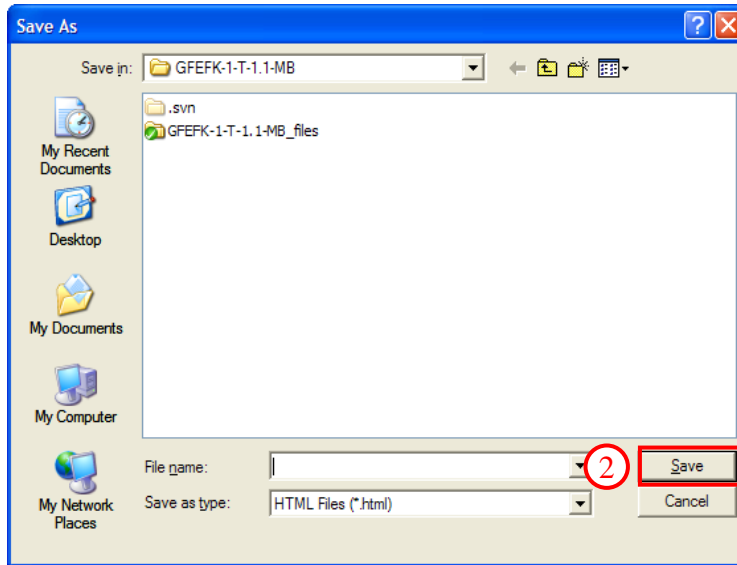

Figure 91. Archive Entire Database - Save As Dialog
2. A *Save As* dialog is displayed (Figure 91). Navigate to the desired location, enter a File name and click the [SAVE] button.